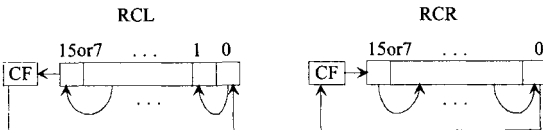

FIGURE 9.7 8086 RCL and RCR instructions
- Figure 9.7 shows RCL mem/reg, CNT and RCR mem/reg, CNT .